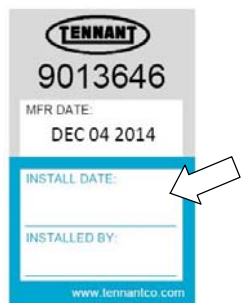

FIG. 92
4. Fill in the installation date on the new cartridge label (Figure 92).